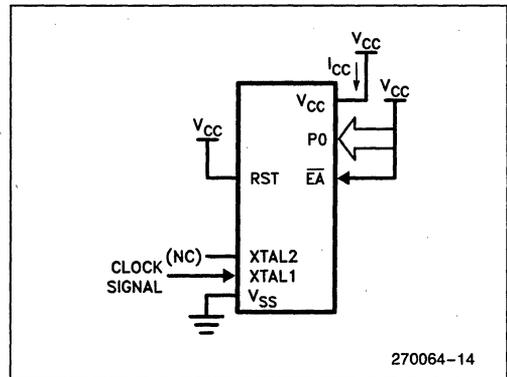

Figure 6. I_{CC} Test Condition, Active Mode.
5. See Figures 6 through 9 for I_{CC} test conditions. Minimum V_{CC} for Power Down is 2V.